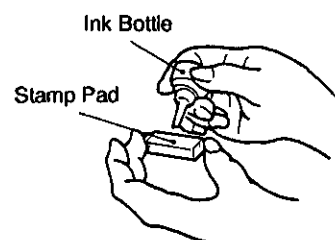

Fig. 7
4. Apply ink to the replenishment pad at the back of the stamp unit. The amount of refilling should be adjusted according to the density of the printed message. (The supplied ink bottle contains 5cc of ink.) (Fig. 7)